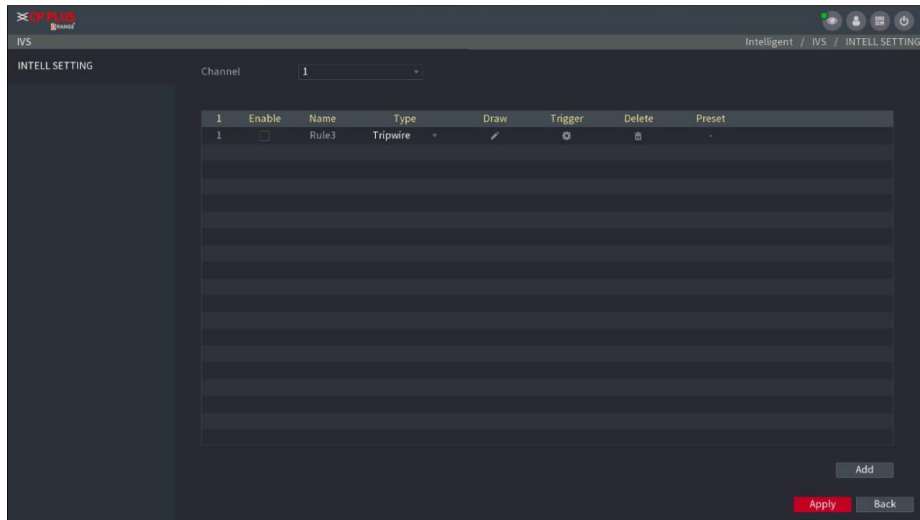

Figure 5-118
**Step 1** On the rule line that you added, in the **Type** list, select **Tripwire**. See Figure 5-118.